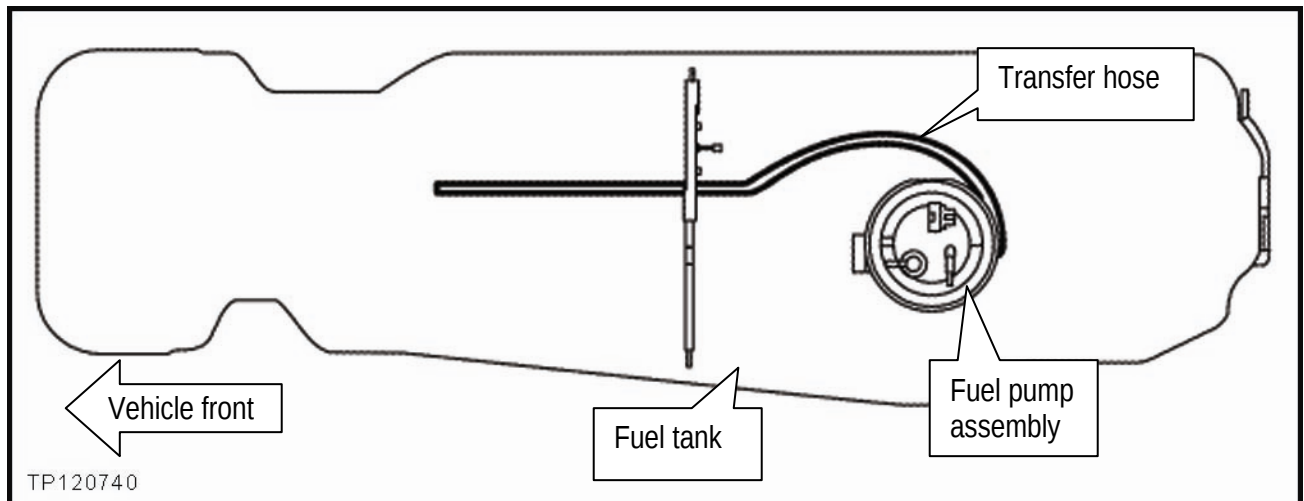

Figure 13
- Figure 13 is provided to help understand the correct routing of the transfer hose.